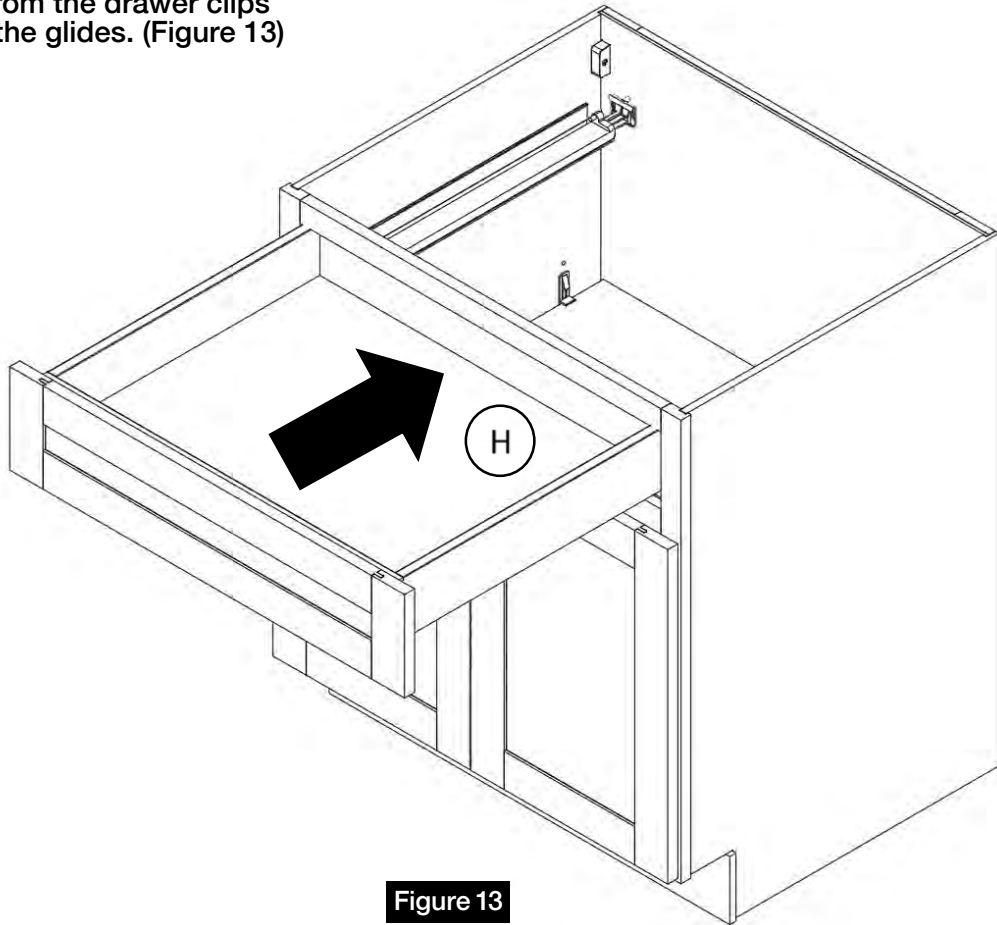

**Figure 12**
**12** Install the remaining bumpers (d) onto the corner of the doors where they come in contact with the frame. (Figure 12)